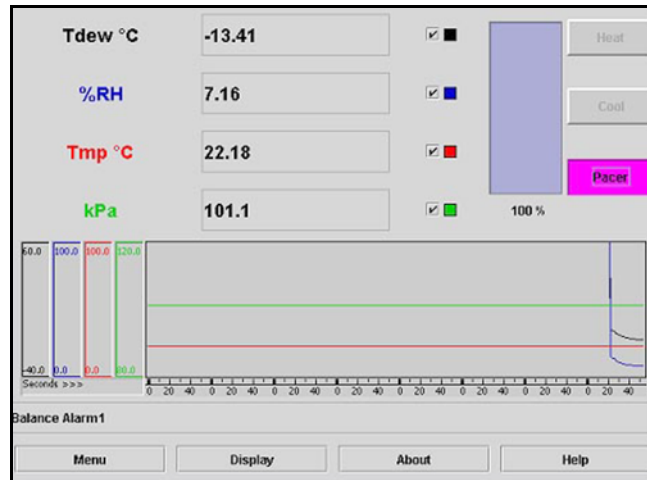

Figure 47: Display with PACER Button Activated
7. From the Optica analyzer press the soft-key next to the **PACER** button, or, from *Optica Java* applet running on your PC, move your mouse pointer over the **PACER** button and click. The button will turn magenta, as shown in *Figure 47* below.